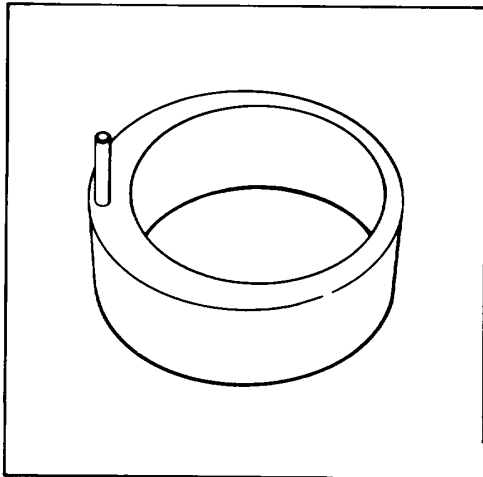
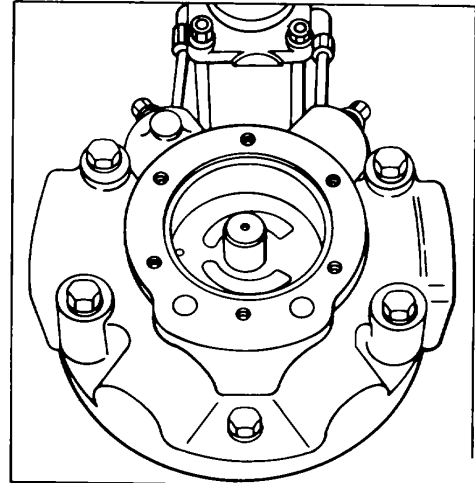

Figure 153.
Figure 154.
surface to remove any high spots. Inspect charge pump spacer assembly (48). If any galling or excessive wear is apparent, discard the spacer assembly (48). See Fig. 153. Remove any burrs with a hard Arkansas stone or equal to remove any nicks from the flat faces.
29. Position O-ring (41) over cover bearing (50). Lubricate the entire charge pump cavity with clean transmission oil.
30. Install lower valve plate (42) over cover bearing (50) and O-ring (41). See Fig. 154.